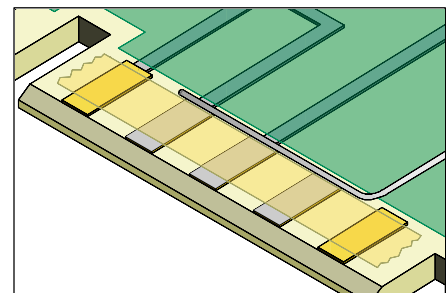

Figure 5: Apply High Temperature Tape then solder a wire to the edge of the contacts needing plating.
2. Solder a wire directly to the inboard tip or connecting circuit of each contact to be plated. The smallest amount of solder should be used to prevent further contamination. (See Figure 5).